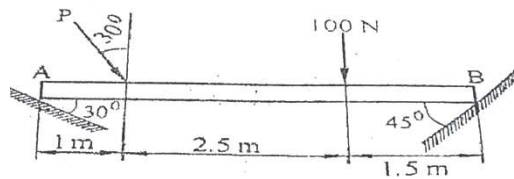

Figure 2.2
2. A 5m bar of negligible weight rests in a horizontal position on the smooth planes as shown in Figure 2.2. Determine the load P and the reactions at supports.